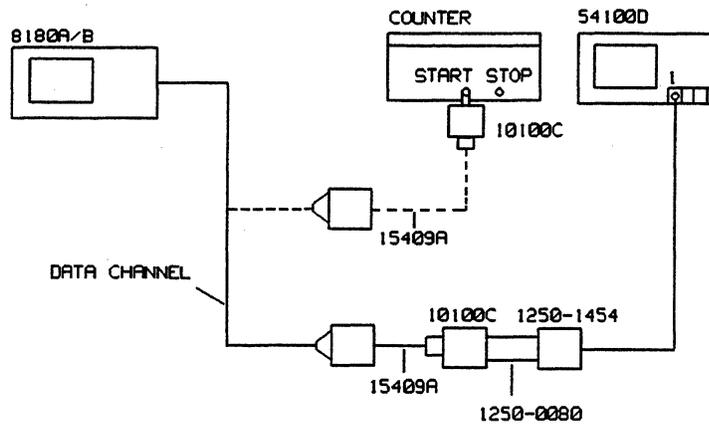

Figure 11-6. Test Setup for the Timing Channel Width Test
6. Connect the equipment as shown in Figure 11-6 and press RUN.